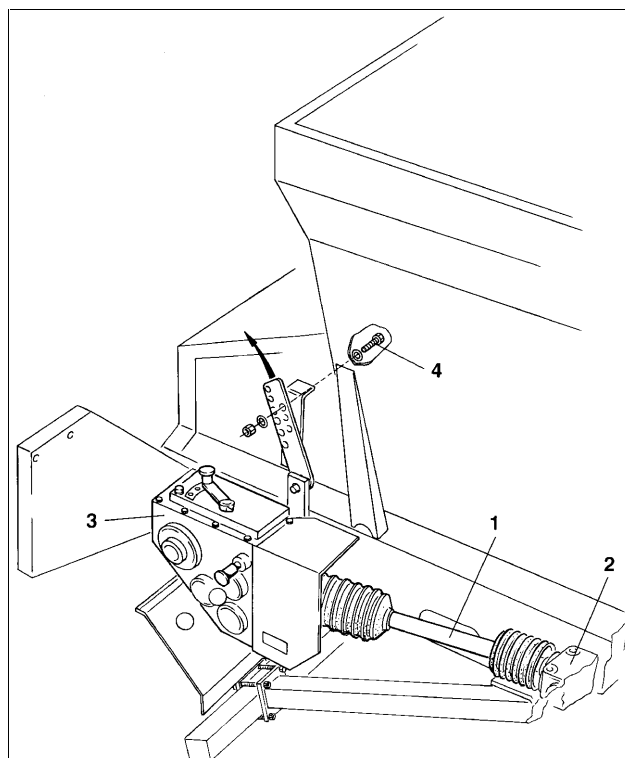

Fig. 73
1. Remove the PTO shaft (Fig. 73/1) from the drive shaft under the **ZG-B** and connect it to the angular gear box (Fig. 73/2) of the ground wheel. To prevent the angle of the PTO shaft (Fig. 73/1) from becoming too extreme, the conveyor belt gear box (Fig. 73/3) must be moved accordingly. After the M16 hexagonal bolt (Fig. 73/4) has been removed, the gears can be repositioned. The new position is secured using the hexagonal bolt.